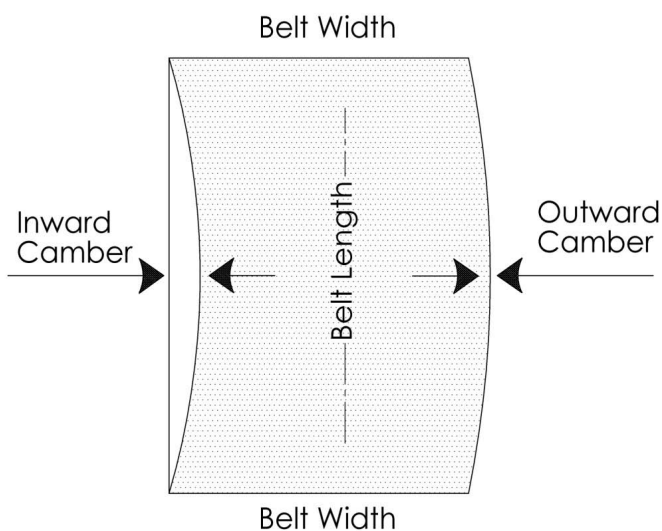

Figure 3.1 (above)
- The above issue may also be caused by a defect and or damage within the conveyor belt itself. One of these defects that have been known to affect belt tracking is commonly referred to as “Belt Camber”. See figure 3.1 below.